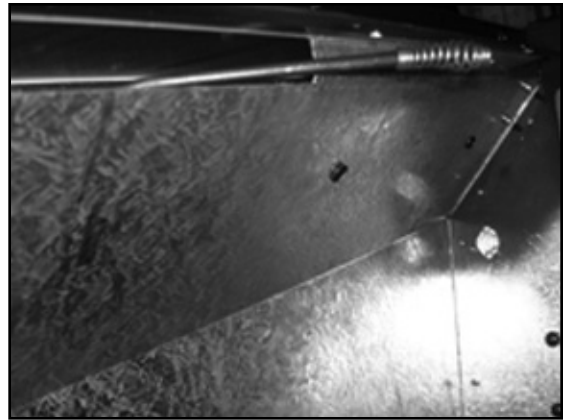

Figure 3
1. Locate screws attached to front side top of interior firebox and remove. (Figure 3).